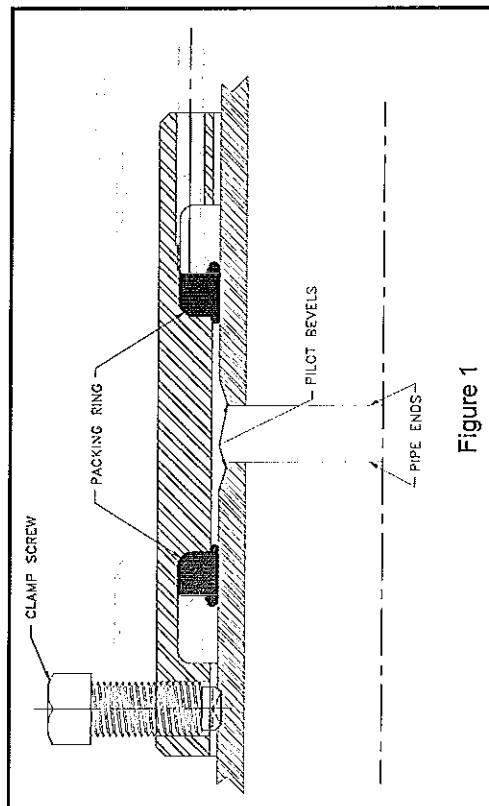

Figure 1
2. For badly misaligned or out-of-round pipe, it is helpful to grind a pilot bevel with a generous taper on the pipe. This would eliminate the risk of damage to the seals while slipping the Plidco Weld+Ends coupling over the end of the pipe. (See Figure 1).